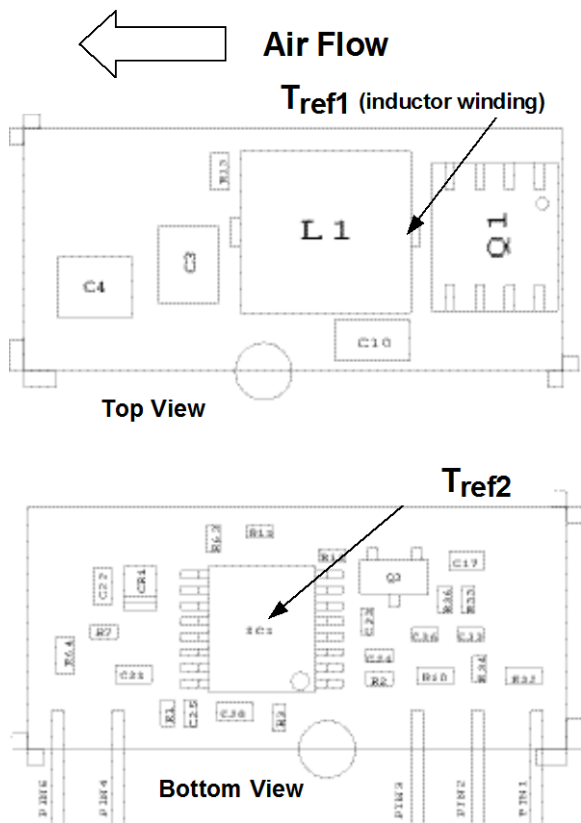
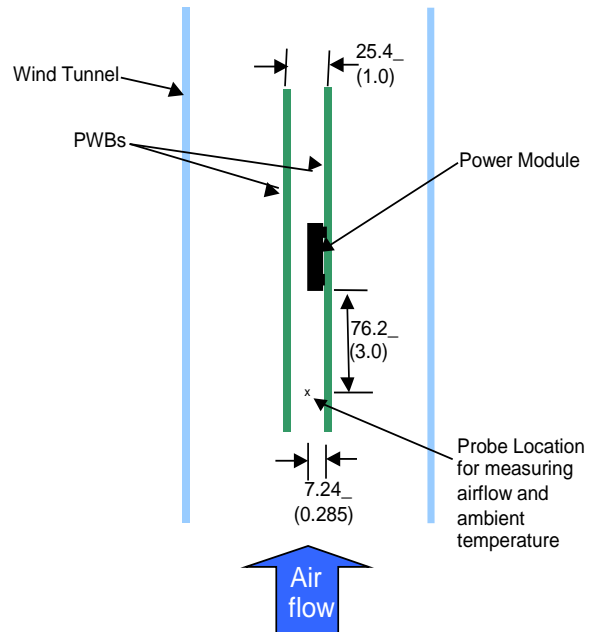

Figure 31. Tref Temperature measurement location.
Figure 32. Thermal Test Set-up.
To provide over temperature protection in a fault condition, the unit relies upon the thermal protection feature of the controller IC. The unit will shutdown if the thermal reference point T_{ref2} , (see Figure 31) exceeds $140^{\circ}C$ (typical), but the thermal shutdown is not intended as a guarantee that the unit will survive temperatures beyond its rating. The module will automatically restarts after it cools down.
Considerations include ambient temperature, airflow, module power dissipation, and the need for increased reliability. A reduction in the operating temperature of the module will result in an increase in reliability. The thermal data presented here is based on physical measurements taken in a wind tunnel. The test set-up is shown in Figure 32. Note that the airflow is parallel to the long axis of the module as shown in figure 31. The derating data applies to airflow in either direction of the module’s long axis.
The thermal reference point, T_{ref1} used in the specifications of thermal derating curves is shown in Figure 31. For reliable operation this temperature should not exceed 125°C.